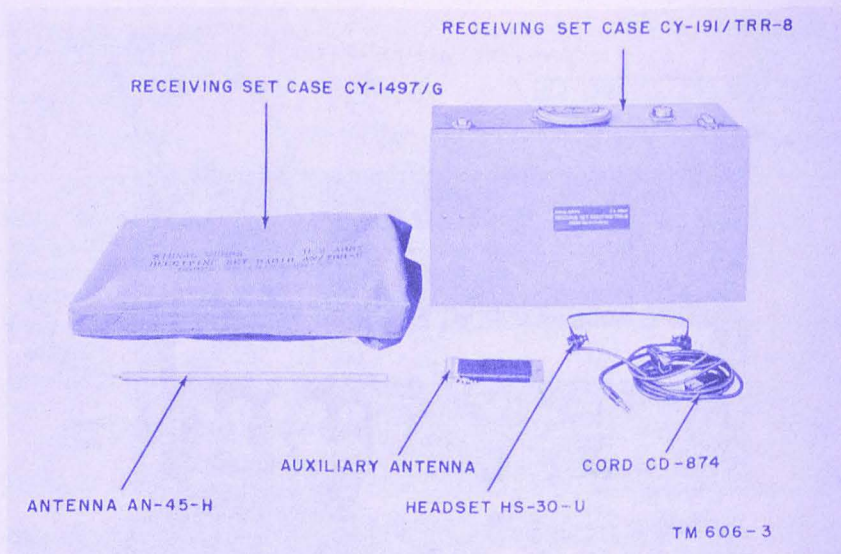

Figure 3. Accessory components.
Antenna AN-45-H (fig. 3) is a collapsible whip antenna. It is stored on the inside surface of the cover of Receiving Set Case CY-191/TRR-8 and is installed in the antenna receptacle on top of the carrying case when it is in use. When extended to its full length of 97 inches, the antenna satisfactorily covers almost the entire frequency range of the receiver.
a. The auxiliary antenna (fig. 3) consists of a 100-foot length of insulated and stranded copper wire with a battery clip at one end; a phenolic insulator at the other end serves as a reel. This antenna is used to improve reception on the first three bands of the receiver. When not in use, it is stored inside the cover of the carrying case.